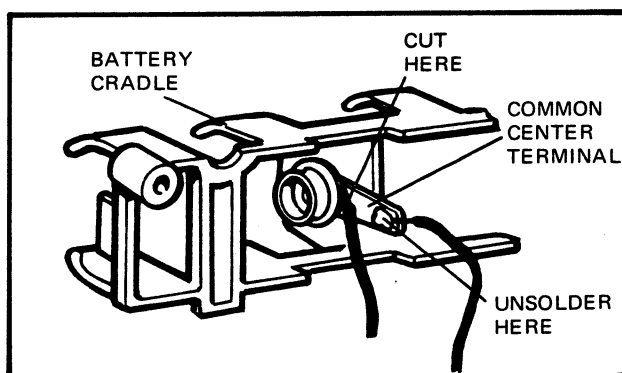

FIG. 5.27 FREEING THE BATTERY CRADLE
4. Unsolder the black shutter lead at the common central terminal. Cut the black timer lead as close to the center terminal as possible (see Figure 5-27). Remove the battery cradle.